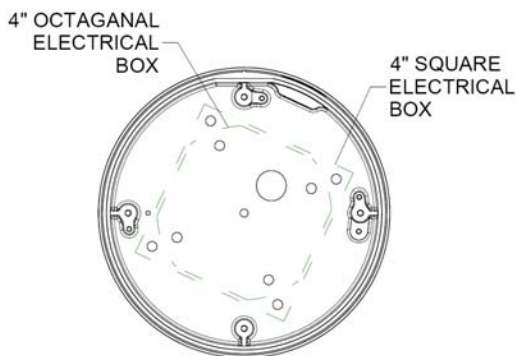

Figure 2
1. Drill out two or more of the recessed holes in the base housing. See Figure 2 for recessed hole to junction box relation if junction box is used.